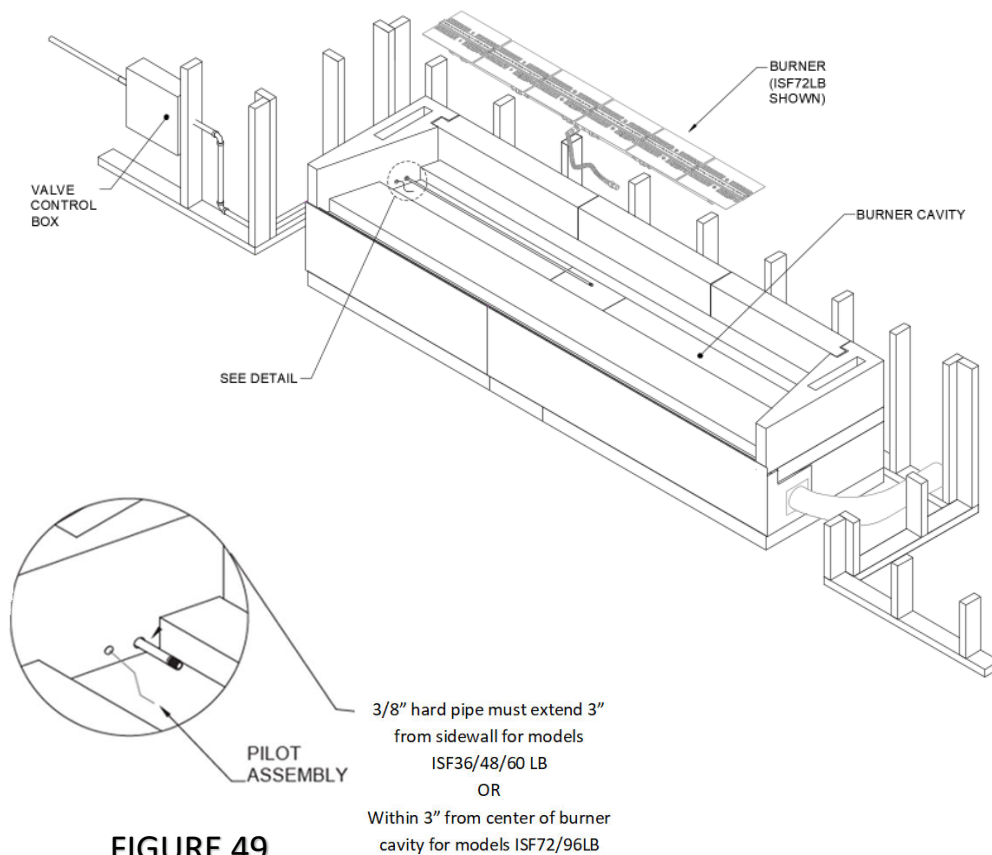

FIGURE 49
- 4) The 48", 60", and 72" Maximus Linear fireplaces (82L48, 82L60, & 82L72) will require the ISF36/48/60LB (N/P) (respectively): Gas supply piping for these models shall terminate not less than 3" from sidewall. (**Figure 49**)
- 5) The 96" and 120" Maximus Linear fireplaces (82L96 & 82L120) will require the ISF72/96LB (N/P) (respectively): Gas supply stub piping for these models shall terminate within 3" from center of the cavity. (**Figure 49**)